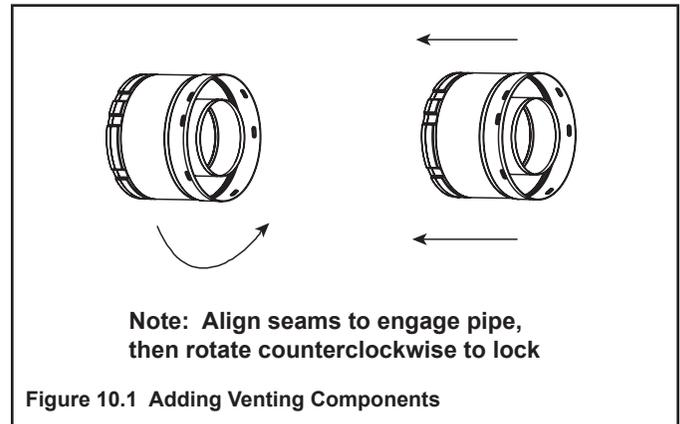

Figure 10.2 High Temperature Silicone Sealant (300°F minimum continuous exposure rating)
- Apply a bead of silicone sealant inside the female outer pipe joint prior to joining sections. See Figure 10.2